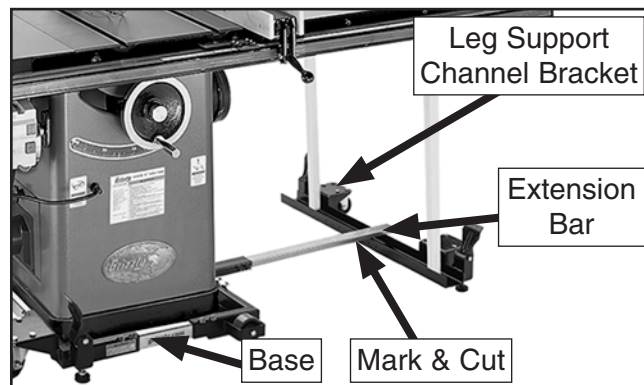

Figure 9. Extension bar and bracket placed between base and leg support channel bracket.
9. Slide extension bar into adapter bracket and lay it towards (or over the top of) leg support channel bracket to determine if you need to cut the extension bar (see **Figure 9**).